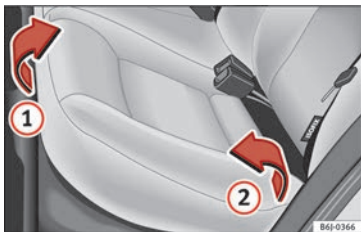
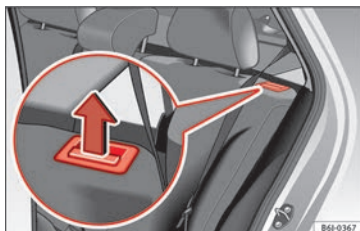

Fig. 126 Folding up the rear seat cushion.
Fig. 127 Button for unlocking the rear backrest.
- Pull the front edge of the seat cushion » Fig. 126 ① upwards in the direction of the arrow.
- Lift the cushion ② forwards in the direction of the arrow.
- Pull the release button » Fig. 127 in the direction of the arrow and fold the backrest forwards.